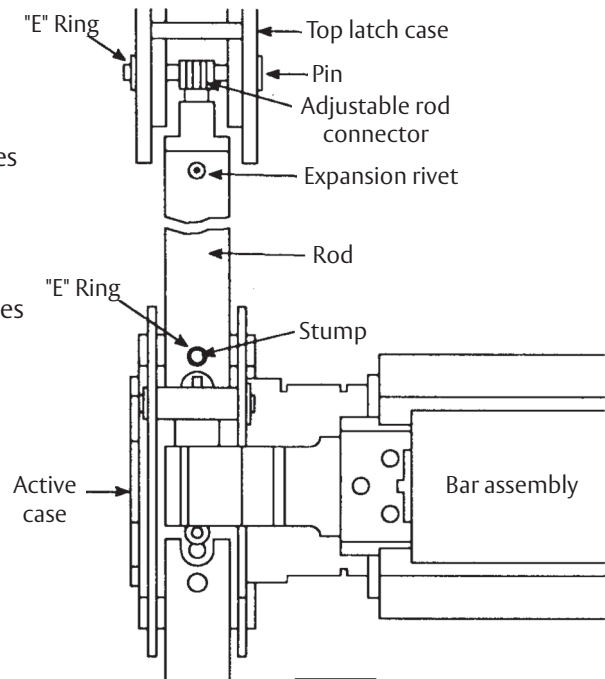

Figure 17
1. With door closed and latched, attach the top rod to the bar assembly by slipping the hole in rod over stump on active case and secure the rod with the "E" ring. Make certain "E" ring engages slot in the stump. (Figure 17)